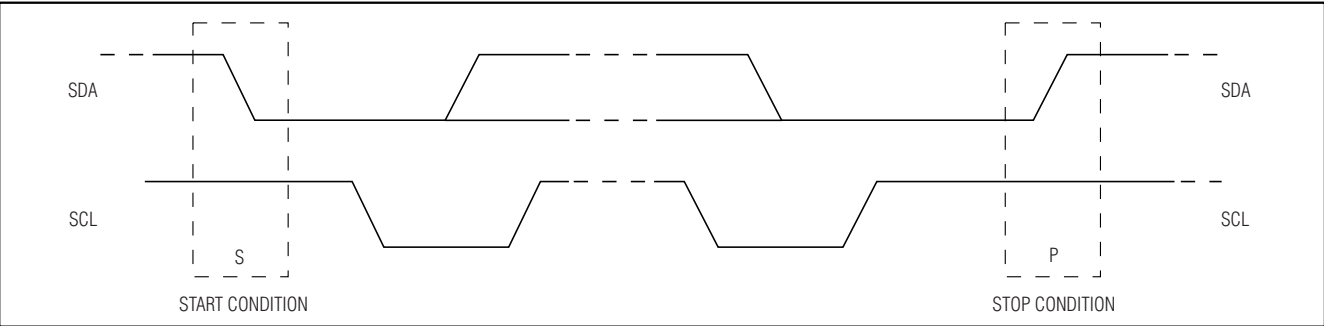

Figure 4. I2C Bus Start and Stop Conditions
Data transfer can only be initiated when the bus is not busy (both SDA and SCL are high). A high-to-low transition of SDA while SCL is high is defined as the Start (S) condition; low-to-high transition of the data line while SCL is high is defined as the Stop (P) condition (Figure 4).